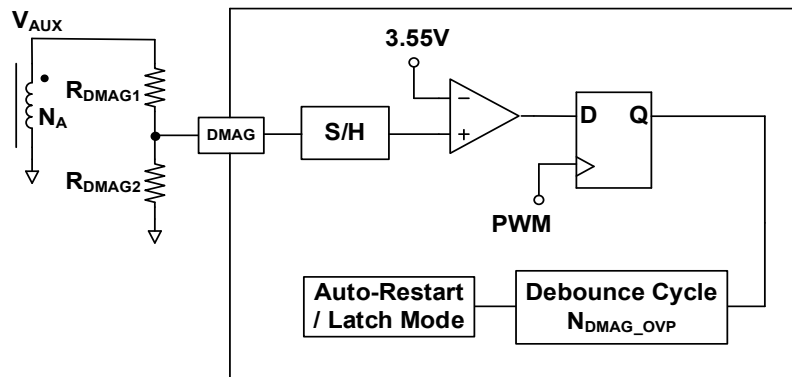

Figure 28 DMAG Over Voltage Protection Circuit
DMAG-OVP prevents server system damage when abnormal system conditions occur and cause DMAG voltage rising abnormally. Usually, DMAG over voltage protection is caused by not working properly feedback network (FB) or a fault condition of the DMAG voltage divider resistors. Figure 28 shows the internal circuit of DMAG-OVP. When abnormal system conditions occur and cause DMAG voltage to exceed V_{DMAG_OVP} for more than N_{DMAG_OVP} consecutive switching cycles, PWM pulses are disabled, and the IC enters the auto-restart mode or the latch mode. For DMAG voltage divider design, R_{DMAG1} is obtained from Equation 5, and R_{DMAG2} is determined by Equation 3. The output over voltage protection level, V_{O_OVP} , can be determined by Equation 7.